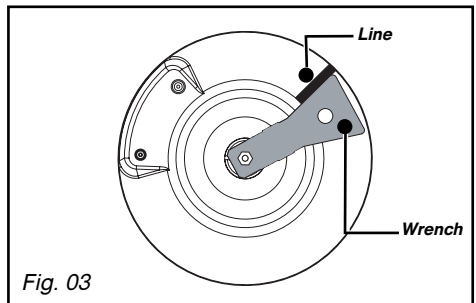

Fig. 03
• Above an empty cabinet or a drawer (Fig. 03).
In an existing system, a soft pipe fitted with clamps (compliant with the XP D 36-110 standard) whose service life is five years may be used. It is necessary in this case to use an adaptor without forgetting to fit a sealing washer between the adaptor and the hob's elbow (Fig. 03).
- Turn the wrench clockwise until the line appears on the other side (*Fig. 03*).